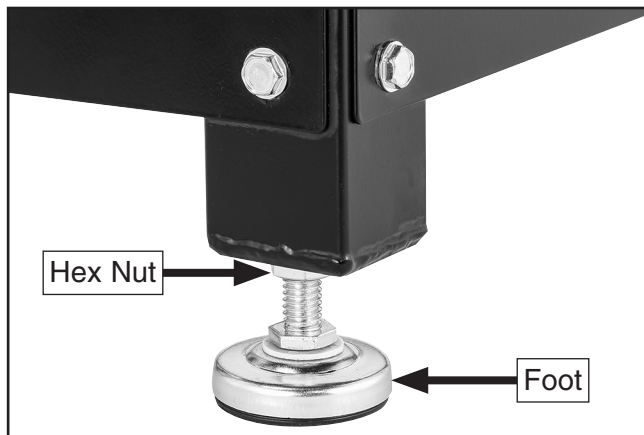

Figure 38. Foot components.
2. Loosen (4) $\frac{1}{2}$ "-12 hex nuts (see **Figure 38**) on router table feet.